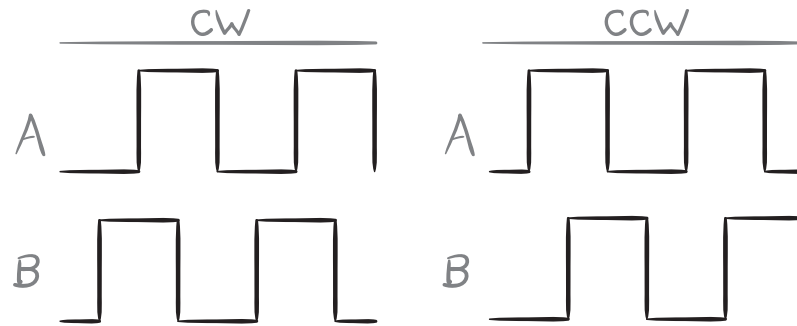

Figure 04.2: quadrature encoding with channels A and B.
sources/detectors by half of a stripe width, then measure both “channels” A and B, then the direction can be determined by which channel “leads” the other. For instance, in Fig. 04.2, the encoder output is high when light is detected and low when it is blocked by a stripe. Channel A leads B when the encoder is rotating clockwise (CW) and B leads A when it is rotating counter-clockwise (CCW).